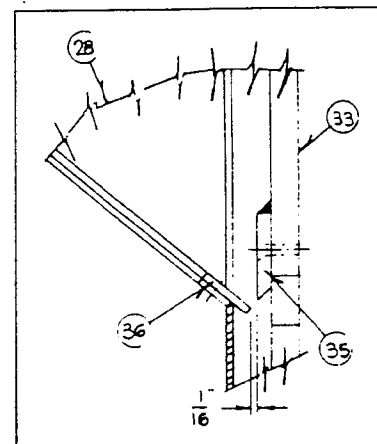

FIGURE 3
5. When the steel chipping knife (item no. 35, figure 3) needs replacing or sharpening, rotate the chipper disc until the three countersunk screws holding the blade is behind the access panel. When you install the knife be certain to use E.V. grade LOC-TITE on the threads so they will not come loose.
6. Care must be exercised when sharpening the blade to maintain the correct bevel and a straight cutting edge. When you install a knife, the clearance between knife and wear plate (item no. 36, figure 3) must be checked. This clearance or gap should be minimum 3/64" maximum 1/16". See figure 3, below. To adjust this clearance, loosen the three 1/4" flathead bolts which are located on the outside of the chipper wear plate next to the chipper side plate. Move the wear plate in or out as necessary and tighten the 1/4" nuts securely.